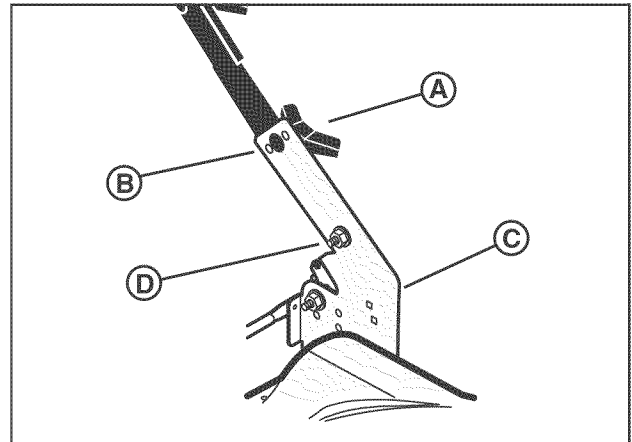

Figure 4: Removing the handle adjustment hardware
1. Remove the wingnuts (A, Figure 4), washers (not shown), and bolts (B) from the right and left handle brackets (C).